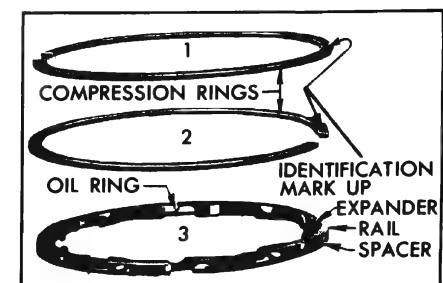

Figure 2-45—Compression and Oil Rings
7. Install compression rings in first and second lands of each piston. Top rings are assembled with inner bevel toward top of piston and second ring inner bevel toward bottom of piston. See Figure 2-45.